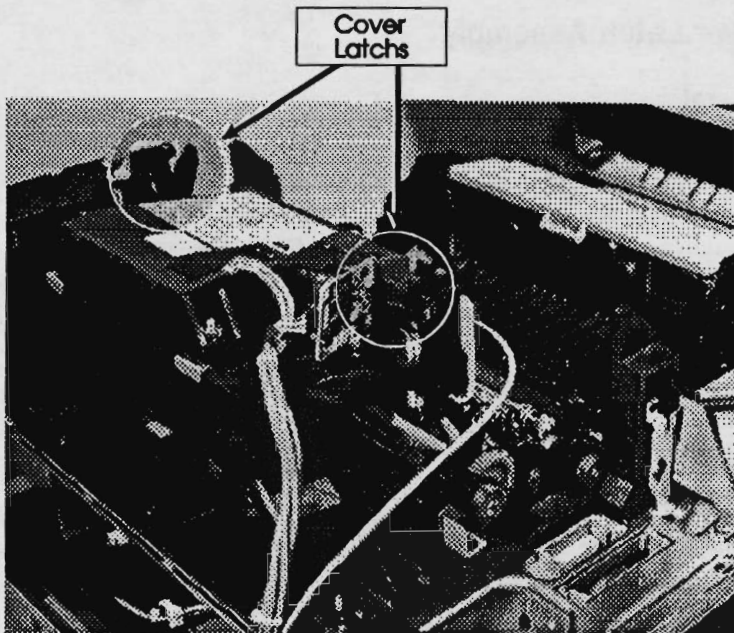

Figure 6-28. Cover Latch Assembly
The DC Power Supply Assembly and High-Voltage Power Supply Assembly must be removed to access the Hooks and Guides (see Figure 6-28). Note that the Right and Left Cover Latch Hook assemblies are not interchangeable. The Cover Release Button is discussed in Section 6-2.
2. Remove the (1) screw and plate that secures the Right Latch Hook and the (1) screw that secures the Left Latch Hook.
3. Pull the hooks and springs off the shaft, being careful not to lose the springs (see Figure 6-28).